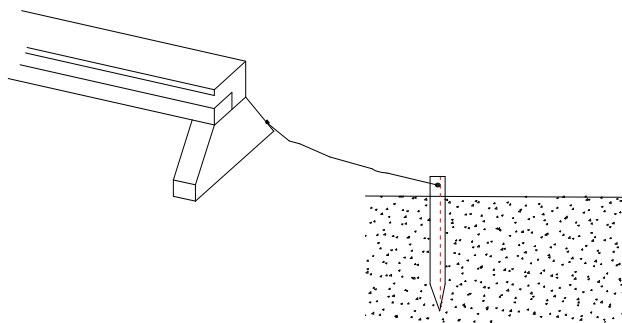

FIG.4
2. It require good earth connection protect dispose, connector is a 40\*40\*4 angle iron, length should longer than 2m, embedding straight to earth, connect wire  $>2.5(\text{m}^2)$  linked with leg of machine firmly.(fig.4)